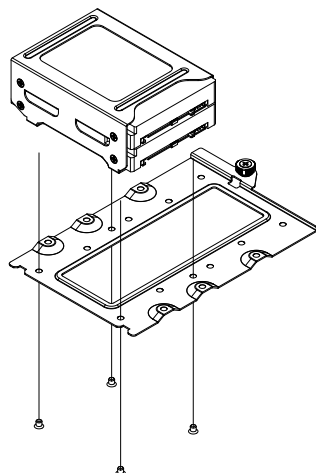
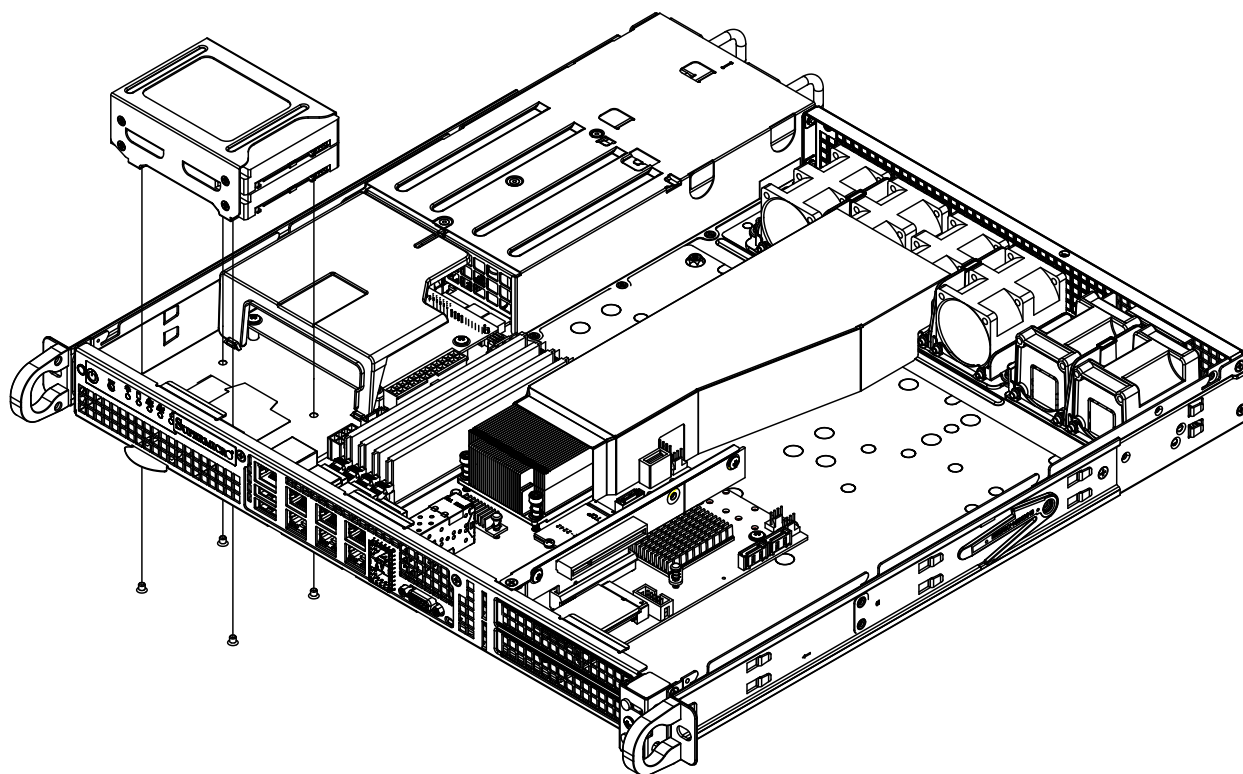

Figure 3-4. Securing 2.5" HDD Brackets to the HDD Drive Tray
Figure 3-5. Installing 2.5" HDDs into the Chassis
3. Secure the HDD drive tray to the chassis floor using a screw as shown in Figure 3-4 or four screws as shown in Figure 3-5.